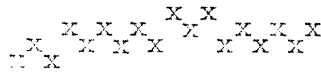
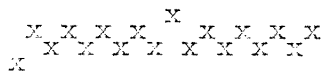

Fig.4
Fig.5
The length of floats in weft depends on the distance between the floats in warp (F). In our example this distance is of 8 ends. If shorter and comparatively steeper floats are wanted, the draft may look as in fig.4. Then instead of 2 we may have only one float in warp as in fig.5.